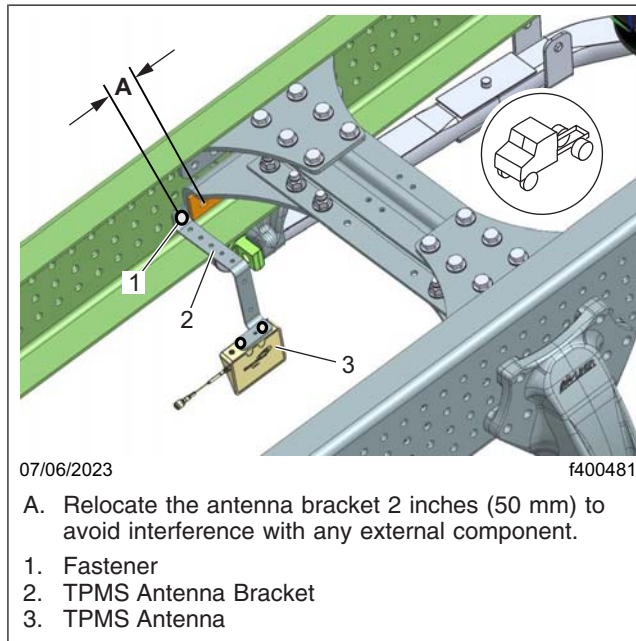

Fig. 2, TPMS Antenna
IMPORTANT: Relocate the antenna bracket 2 inches (50 mm), as shown in **Fig. 2**, to avoid interference with any external component.
6. Using the existing fasteners install the new TPMS antenna bracket (06-95363-000) and the TPMS antenna (BW 2400162N), tighten the mounting cap screws 60 lbf-in (678 N-cm). See **Fig. 2**.